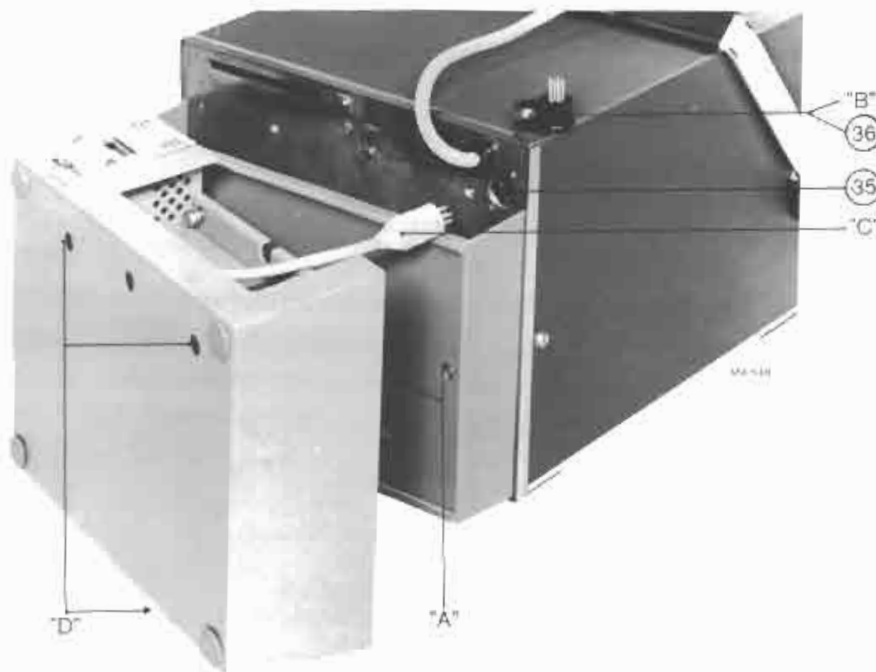

Fig. 13: Installation of battery case + rear view with indication of parts
#### 2. Installation (see Fig. 13)
- Remove interconnection plug BU6 (item 36, Fig. 13) and insert plug BU8 of adapter in socket BU5 (item 35, Fig. 13)